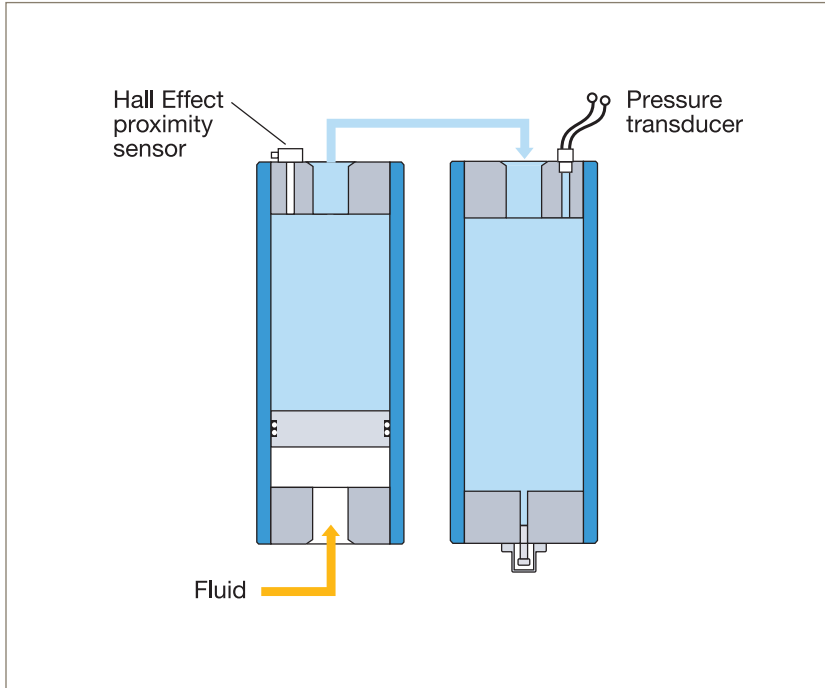

Fig. 14b Hall Effect sensor registers proximity of piston to end cap
Several methods can be used to monitor the precharge pressure of Parker’s piston accumulators. Note that, in **Fig. 14b**, the flat piston must be used to enable the sensor to register its position.
- **In applications where an accumulator is coupled to a gas bottle: A Hall Effect proximity sensor can be installed in the accumulator gas end cap (Fig. 14b) to detect when the piston comes within .050 inch of the cap. This system would provide a warning when precharge pressure has dropped and remedial action should be taken.**